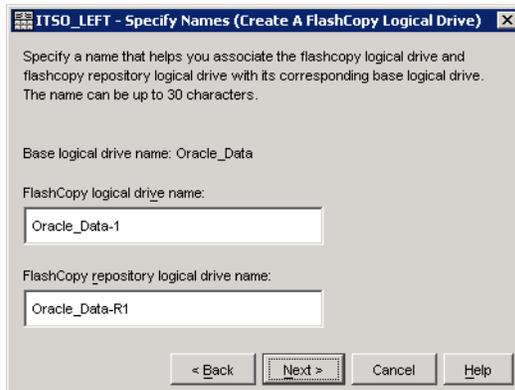

Figure 7-7 Create FC Logical Drive Wizard: Specify names
- a. The Specify Names panel is displayed (Figure 7-7) to define the name of the FlashCopy logical drive and its associated repository logical drive.
- a. The Specify Names panel is displayed. On the Specify Names panel (Figure 7-7 on page 411) define the FlashCopy logical drive name and the name of its associated FlashCopy repository logical drive. Click **Next** to continue.